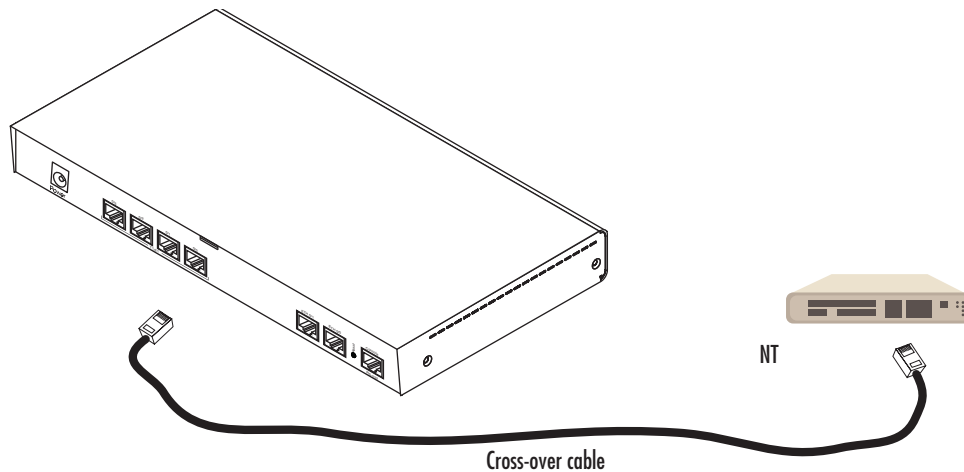

Figure 14. Connecting a T1 PRI port to an NT device
The T1 PRI is usually connected to a PBX or switch—local exchange (LE). Type and pin outs of these devices vary depending on the manufacturer. In most cases, a straight-through RJ-45 to RJ-45 can be used to connect the PRI with a PBX. A cross-over cable is required to connect to an NT device, as illustrated in figure 14 on page 59.